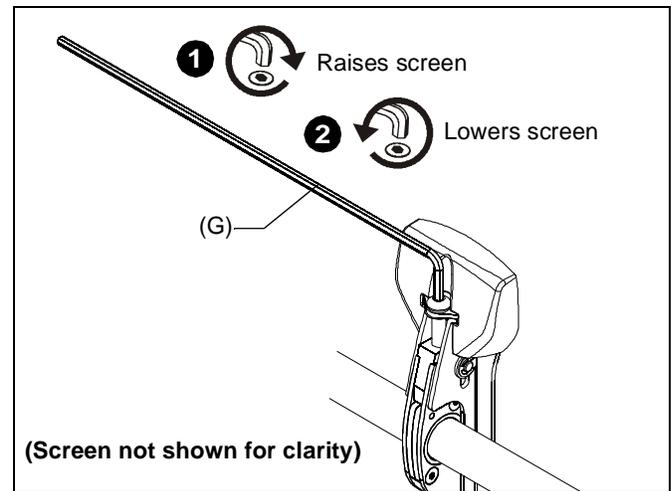

Figure 11
- Turn to right (tighten) to raise side of screen. (See Figure 11)